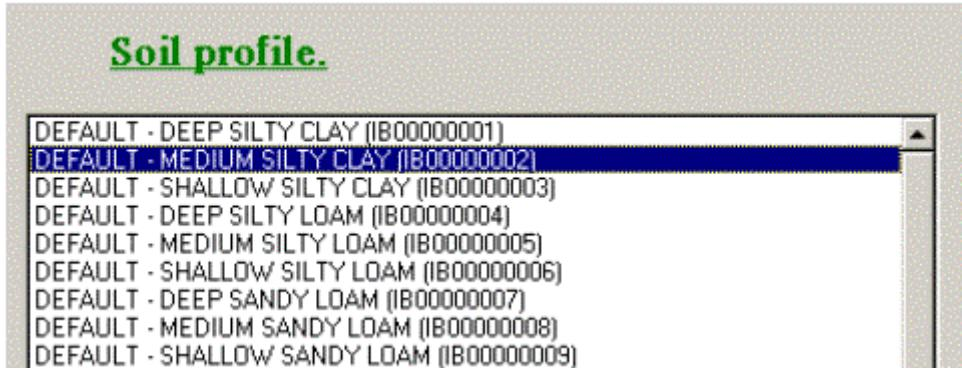

Figure 9. Selected the "DEFAULT - MEDIUM SILTY CLAY (IB00000002)" profile.
(3) Select the profile "DEFAULT - MEDIUM SILTY CLAY (IB00000002)" (Fig 9).